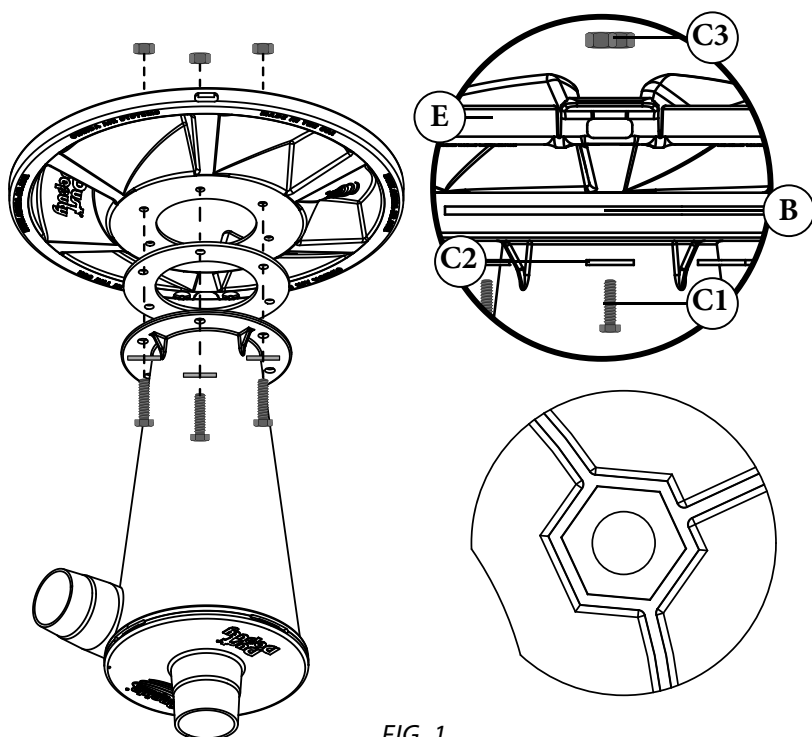

FIG. 1
Turn the Cyclone (A) upside-down. Place the Gasket (B) on the base of Cyclone and align all the holes. Place the topside of the Lid (E) against the Gasket and align all the holes. Secure the Cyclone, Gasket and Lid together using six Bolts (C1), six Washers (C2), and six Hex Nuts (C3) as shown in [FIG. 1].